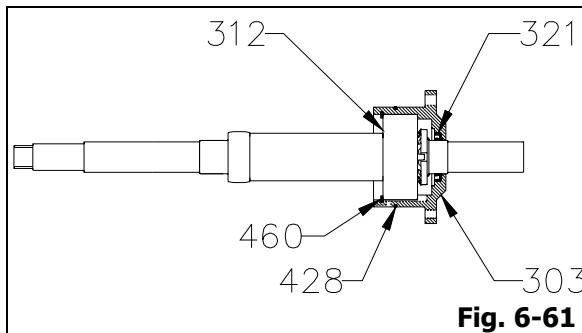

Fig. 6-61
- Coat external surface of drive end bearing (312) with oil.
- For open type impeller, coat oil seal (321) seat surface on adjustable bearing box (303) with oil. Press oil seal (321) into adjustable bearing box (303) by hand until the shoulder of the seal is fully seated against the adjustable bearing box (303).
- Coat internal surface of adjustable bearing box (303) with oil. Install adjustable bearing box (303) assembly onto drive end bearing (312) until the bearing is fully seated on adjustable bearing box (303). Install cir clip (460) and bearing box "O" ring (428) into adjustable bearing box (303) (Fig. 6-61).